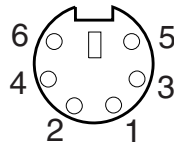

Figure 13. BladeCenter T Mouse connector
- **Mouse connector:** The Blade Center T KVM module contains one PS/2 mouse connector (see Figure 13).